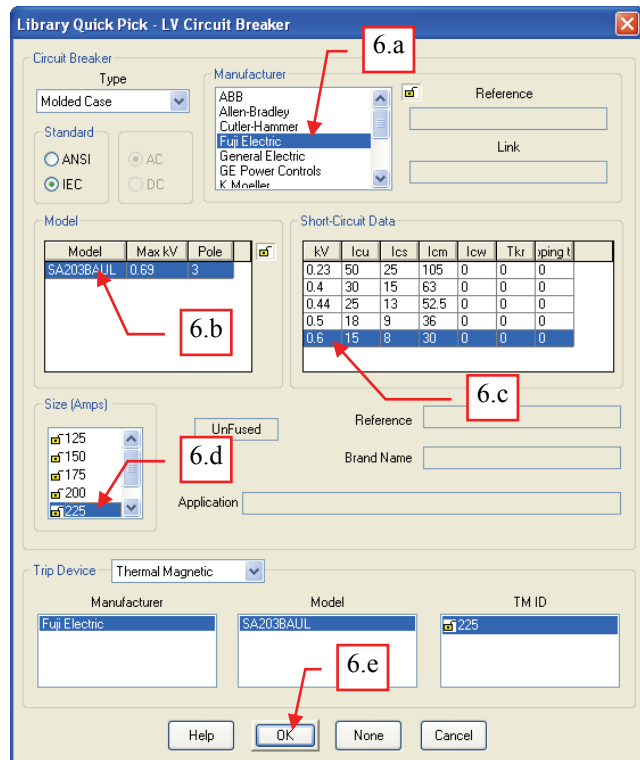

Fig. 30
6. In the “Library Quick Pick – LV Circuit Breaker” dialog box, do the following (see Fig. 30):